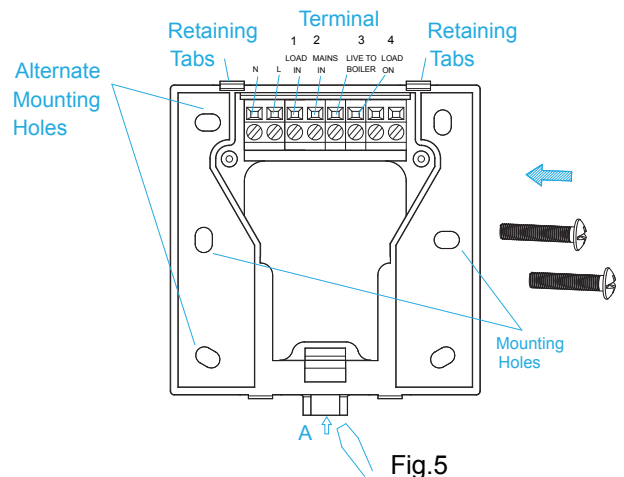

Fig.5
1. Remove the mounting plate from the unit by prying off the mounting plate in position A (as showing in Fig. 5) with a screwdriver, and pivoting the bottom of the unit outwards. The CHPPR1 body can then be lifted off.